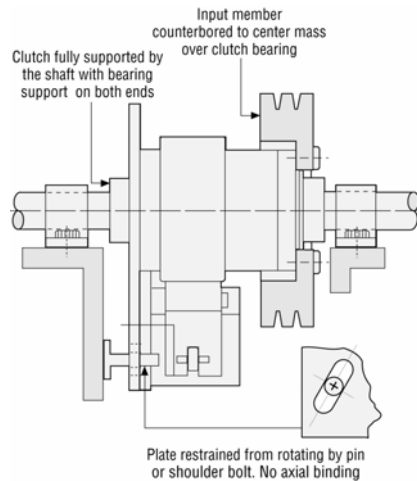
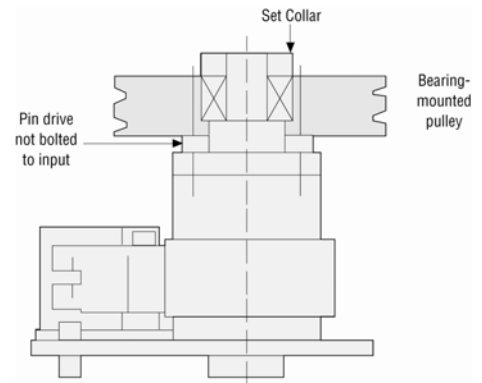
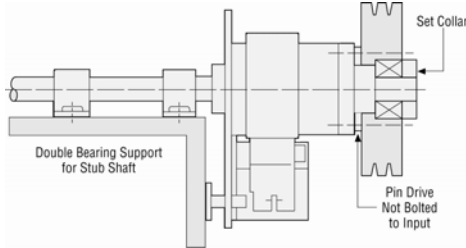

Figure 1
Figure 2
Figure 3
- 3.1. **Horizontal and Vertical Mounting** –The Genuine Wrap Spring clutches are self-contained packaged products which are easy to mount. A few simple precautions should be taken to ensure maximum life. All Genuine Wrap Spring clutch products are designed for parallel shaft applications where they are fully supported by the shaft on which they are mounted. In the case of CB wrap spring clutch/brakes, the through shaft is always the output. Connecting the parallel shaft to the CB input can be accomplished by use of a belt, chain or gear drive. CB models must be mounted with the shaft(s) in a horizontal position (Figure 1). If vertical mounting is required, see Figure 2.
- 3.2. **Preferred Horizontal Mounting** - Figure 1 shows an ideal CB mounting. The unit is locked to the output shaft with a key and set screws. The mounting plate is restrained from rotating with a pin, but is not restrained axially, reducing the load on the CB's internal plate bearing. The anti-rotation device employed must be able to withstand the braking torque required by the load. It may be desirable to have easy access to the input for changing belts, etc. In this case, the clutch/brake can be mounted on a stub shaft. If so, the unit must still be fully supported. Overhung loads on the input member must be avoided to secure long radial bearing life.
- 3.3. **Optional Vertical Mounting** - Figure 2 - When applying a wrap spring vertically, the mating drive member (pulley, sprocket, or sheave) must be bearing-supported as shown in Figure 2. This is necessary to eliminate the axial loading that will occur from the weight of the mating drive member (pulley, sprocket or sheave).
- 3.4. **Optional Mounting Configurations** – Figures 3 and 4 illustrate how proper support can be provided. Input members are generally face-mounted to the input hub of the unit as shown on Figure 1. This is facilitated by drilled and tapped holes provided in the free hub flange. The set-up shown in Figure 3 is possible if the radial load to the input hub of the clutch is small compared to the specified load. With a substantial load, arrange the pulley over the centerline of clutch free hub as shown in Figure 4. The solution presented here is better than that in Figure 3. Place one support bearing as close to the pulley as possible. Use a torque arm for anti-rotation. Small units (size 2, 4, and 5) are provided with pilot holes in the output shaft. These guide drilling through the machine shaft for attachment of the unit, accomplished by a pin.